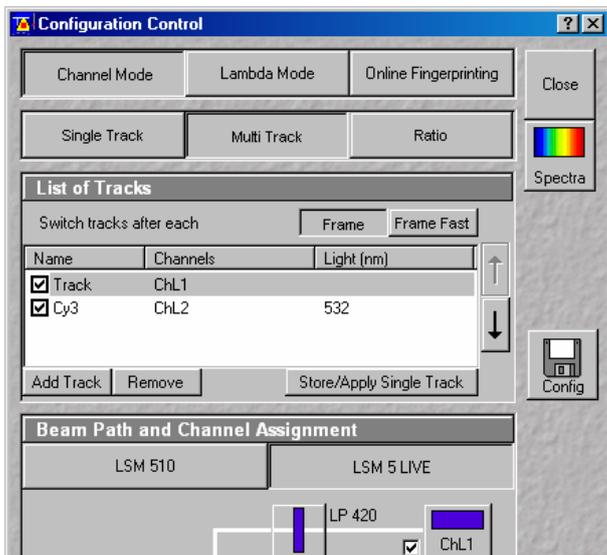

**Fig. 17** Track Configurations window (LSM 5 LIVE)
- Clicking on the **Config** button opens the **Track Configurations** window (Fig. 17) to load, store or delete track configurations.